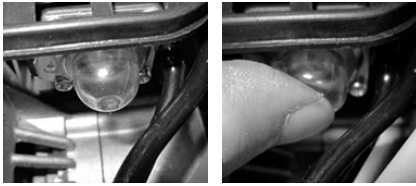

FIG.12
1. Press the fuel pump several times until it fills with fuel. (Fig.12)